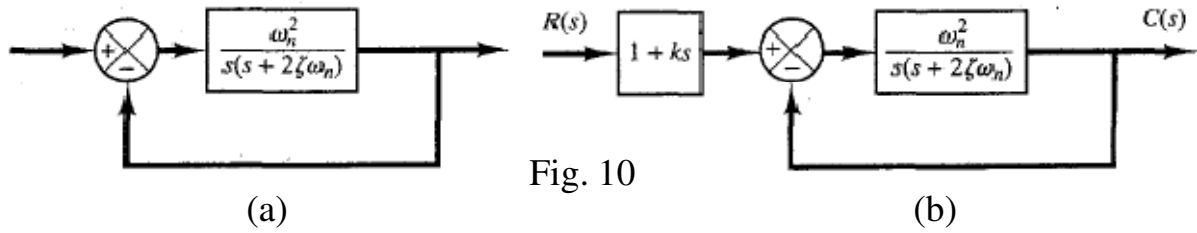

Fig. 10
15) Consider the system shown in Fig. 10(a). The steady-state error to a unit-ramp input is $e_{ss} = \frac{2\zeta}{\omega_n}$. Show that the steady-state error for following a ramp input may be eliminated if the input is introduced to the system through a proportional-plus-derivative filter, as shown in Fig. 10(b), and the value of k is properly set.